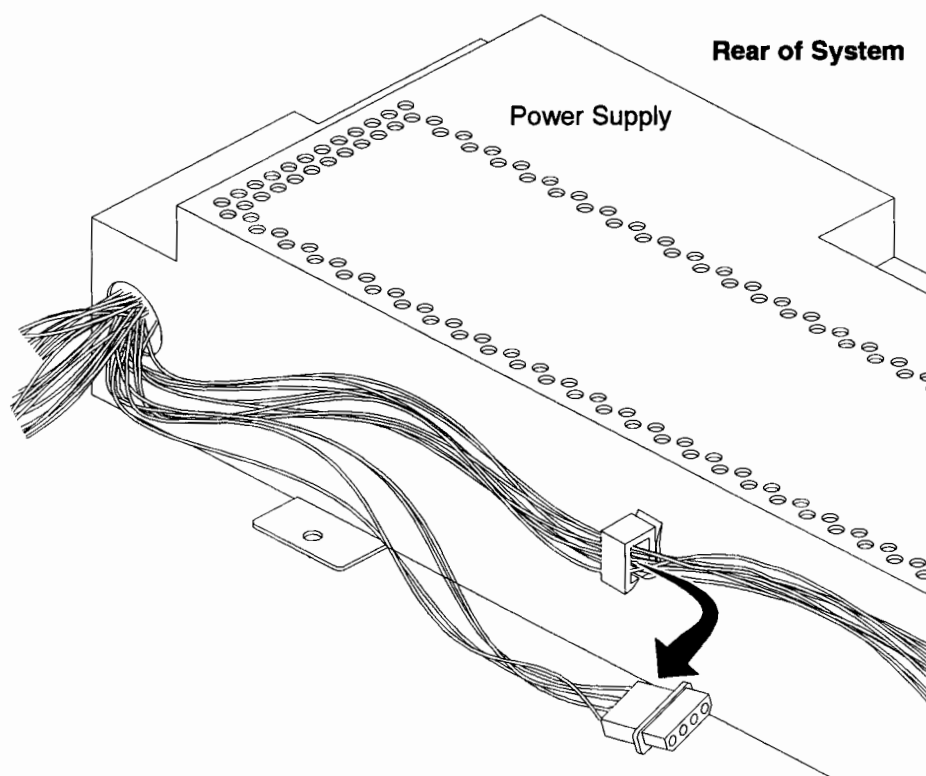

Figure B-29. Power Supply Connector
9. Remove the power supply connector from the cable clip on the power supply, as shown in Figure B-29, and plug it into the rear of the DDS-format tape drive.